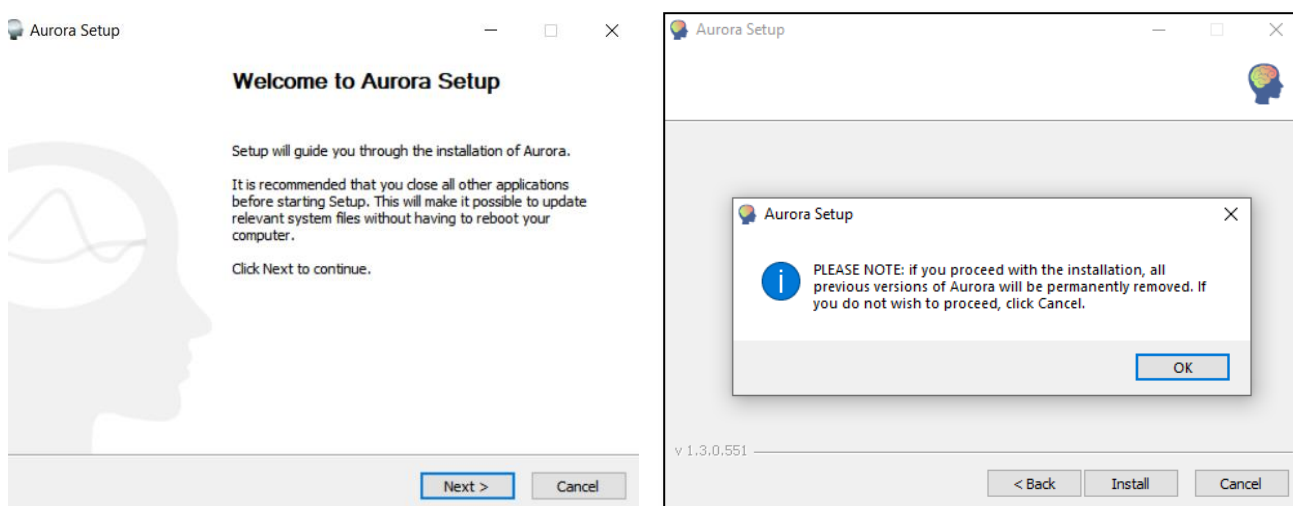

Figure 3.1: Aurora installation dialog boxes
- Read each dialog box as they appear, as in Figure 3.1, and click *Next/OK/Install* as requested. It is recommended to choose the default installation folder.